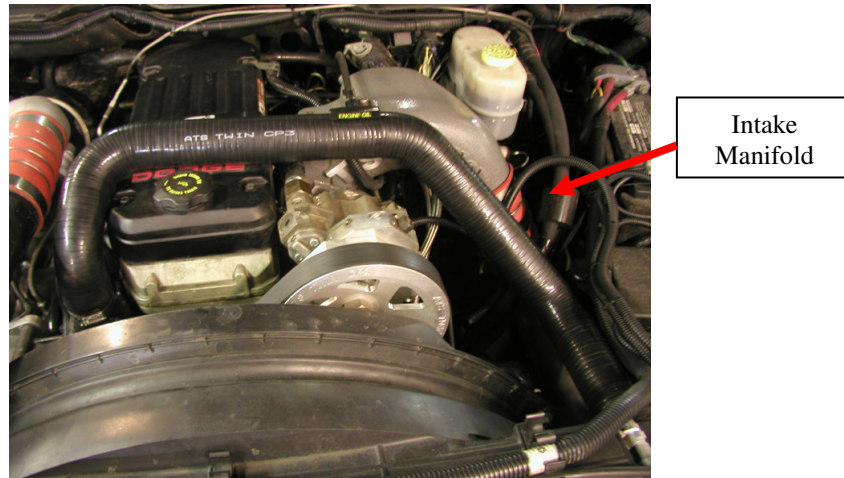

Figure 3: ATS Radiator Hose
10. Install the supplied straight water outlet and the black radiator hose supplied in the kit using the original hose clamps, Figure 3.